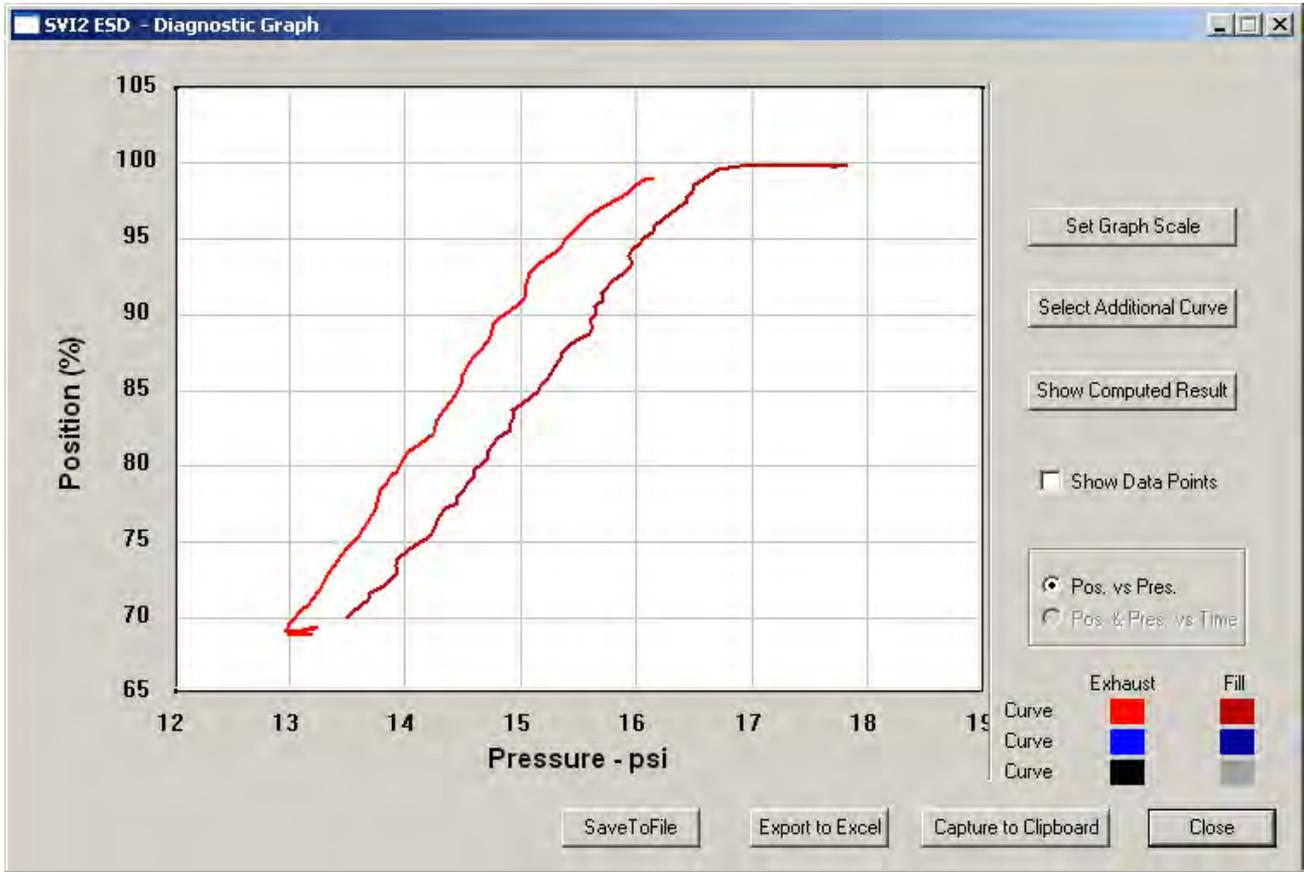

Figure 206 Extended Signature Diagnostics Graph
6. Click **Continue** to close the dialog and view the *Diagnostic Graph* (Figure 206).
The *Extended Signature Diagnostics Graph* (Figure 206) has the same features as all other diagnostic graphs: